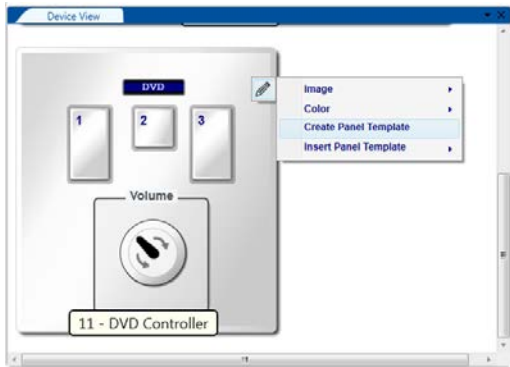

Figure 160: Creating a Virtual Panel Template
1. Right click a virtual panel in the Device View area and select Create Panel Template (see Figure 160):